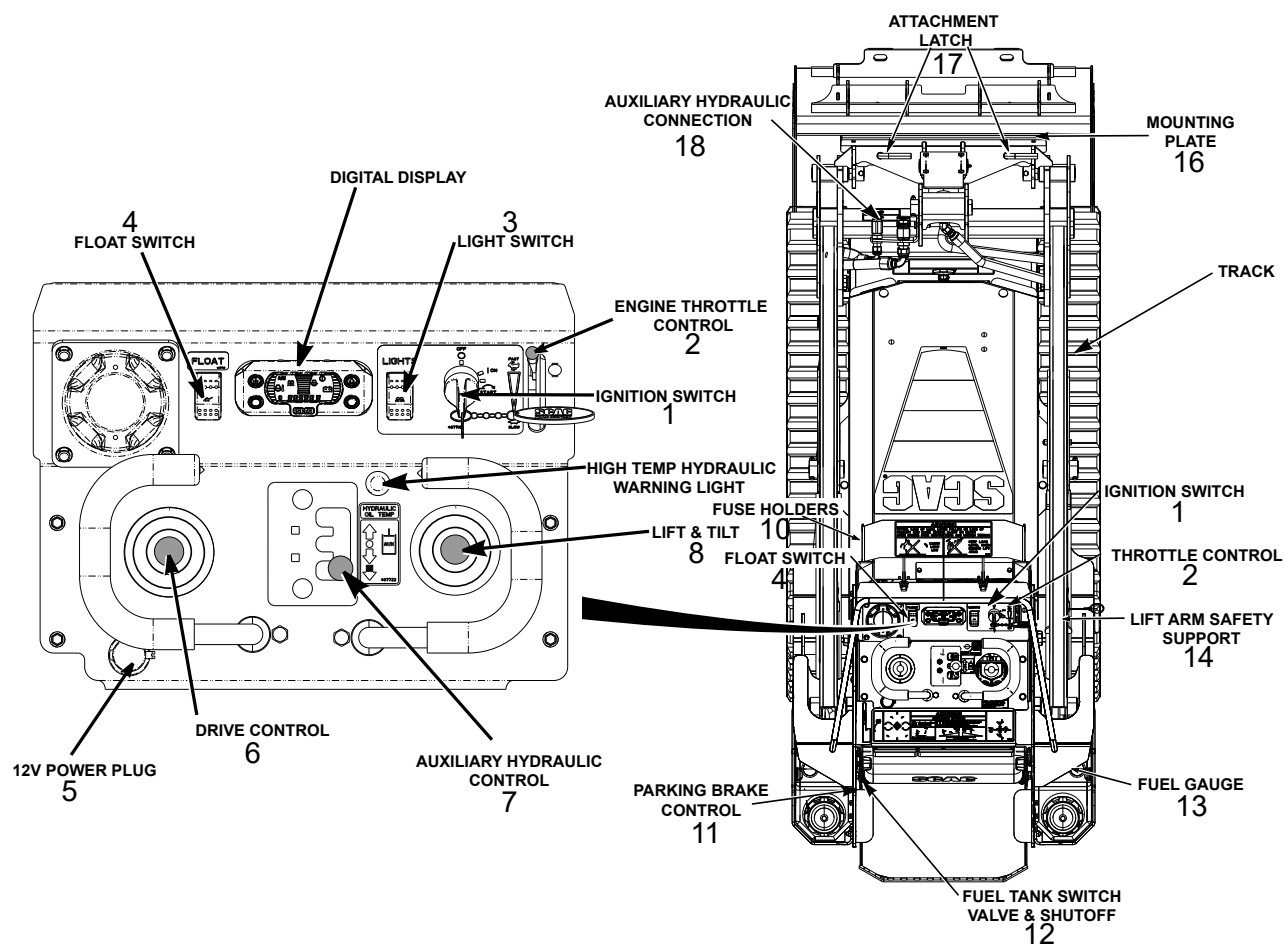

Figure 4-2. Controls and Instruments
- 1. Ignition Switch (Figure 4-2).** The ignition switch is used to start the engine and has three positions; OFF, ON, and START.
- 2. Engine Throttle Control (Figure 4-2).** Used to control the engine speed. Pushing the lever forward increases engine speed. Pulling the lever back decreases engine speed. Full back position is the IDLE position.
- 3. Light Switch (Figure 4-2).** Turns working lights on and off.
- 4. Float Switch (Figure 4-2).** Allows attachments to follow the contours of the ground when grading.
- 5. 12V Power Plug (Figure 4-2).** Added power supply for all your worksite needs.
- 6. Drive Control (Figure 4-2).** Control direction and speed of track loader.
- 7. Auxiliary Hydraulic Control (Figure 4-2).** Operate the auxiliary hydraulics in the forward or reverse direction.
- 8. Lift & Tilt (Figure 4-2).** Controls machine lift arms.
- 9. Hydraulic High Temperature Warning Light (See Figure 4-2).** Indicates overheating of hydraulic fluid.
- 10. Fuse Holders (Figure 4-2).** There is one 20-amp fuse and one 50-amp resettable fuse that protects the loader's electrical system. To replace fuse, pull fuse out of the socket and install a new fuse.
- 11. Parking Brake Control (Figure 4-2).** Used to engage and disengage the parking brakes. Move the lever back and lock to engage the parking brakes. Move the lever forward to disengage the parking brakes.
- 13. Fuel Gauge (Figure 4-2).** Indicates the amount of fuel in the fuel tank.
- 14. Lift Arm Safety Support (Figure 4-2).** Necessary to work or move around the machine with the lift arms in the raised position while the controls are unattended.
- 16. Mounting Plate (Figure 4-2).** Located at the end of the loader arms to hook up attachments.
- 17. Attachment Latch (Figure 4-2).** Secures attachments and accessories to mounting plate.
- 18. Auxiliary Hydraulic Connection (Figure 4-2).** Delivers pressurized hydraulic fluid from a hydraulic pump to operate auxiliary equipment or attachments.